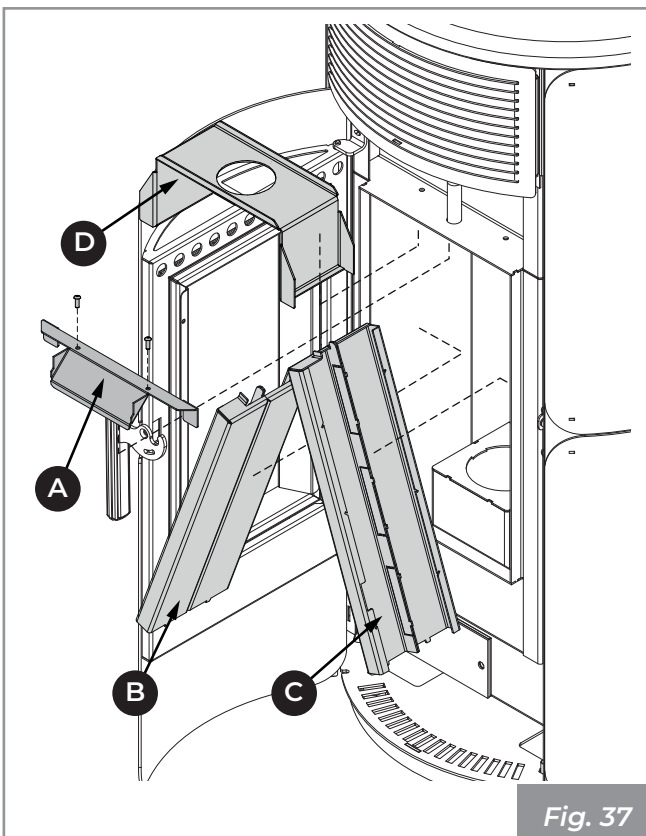

Fig. 37
- Use the screws to remove the glass air deflector (**A**), remove the side panels (**B** and **C**) inside the fire box and the upper deflector (**D - Fig. 37**).